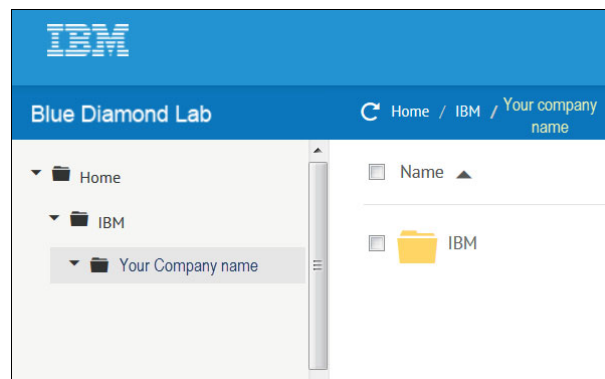

Figure 7-12 Navigate your company folder
4. Navigate to the folder that contains your company name (IBM/YourCompanyName) See (Figure 7-12).